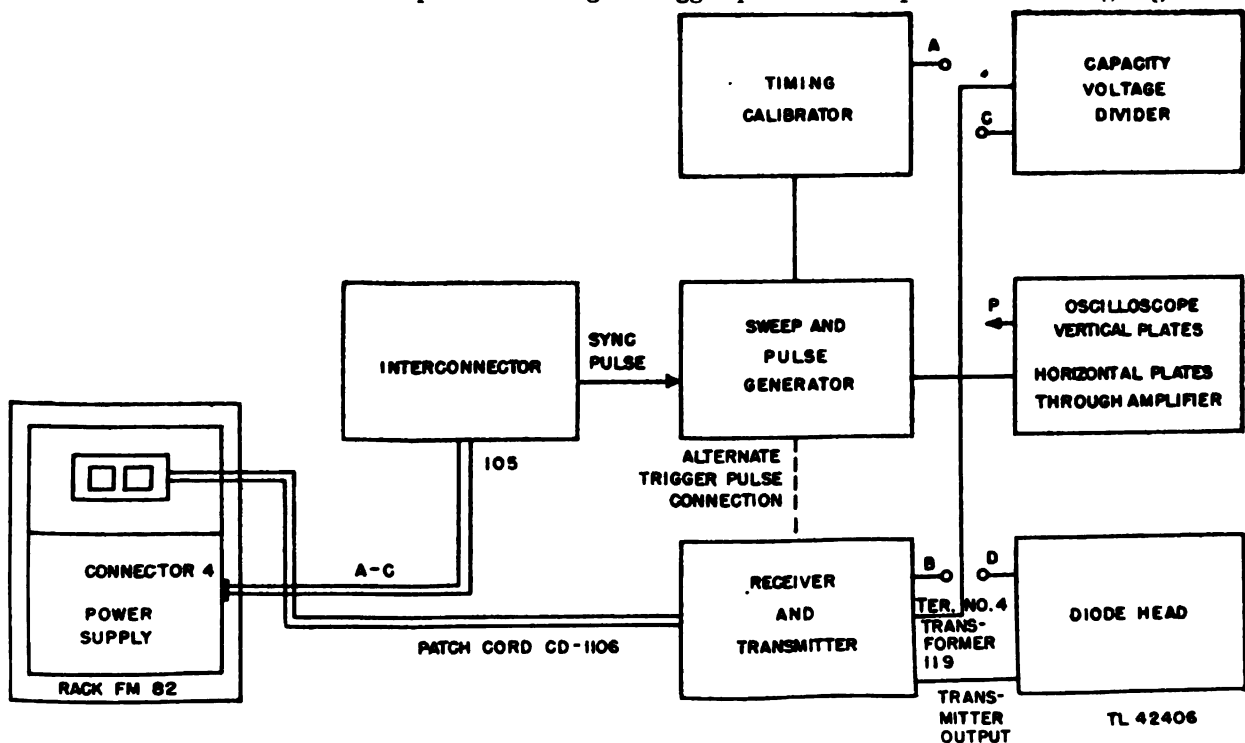

Figure 187. Radio Equipment RC-148-C, block diagram of test equipment connections.
*b. TEST CONNECTIONS.* The actual connection of the test equipment will depend on the type of equipment available. (It must be assumed that the operator is reasonably familiar with the use of such equipment.) The procedure described below gives the basic principles for checking the transmitter. A block diagram is given in figure 187.
(1) The transmitter may be triggered by the interconnector or by an external pulse and sweep generator. The transmitter should be removed from the rack and connected electrically to the rack by means of patch Cord CD-1106. The power supply must be in place in the rack if the trigger pulse is to come from the interconnector, it is necessary that the interconnector be properly adjusted for normal operation. To operate the transmitter from an external source, plug the external trigger voltage into the SYNCH. INPUT jack on the transmitter.
(2) The sweep generator for the test oscilloscope must be synchronized with the trigger pulse.